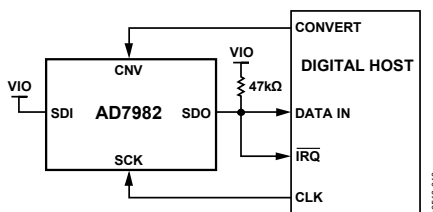
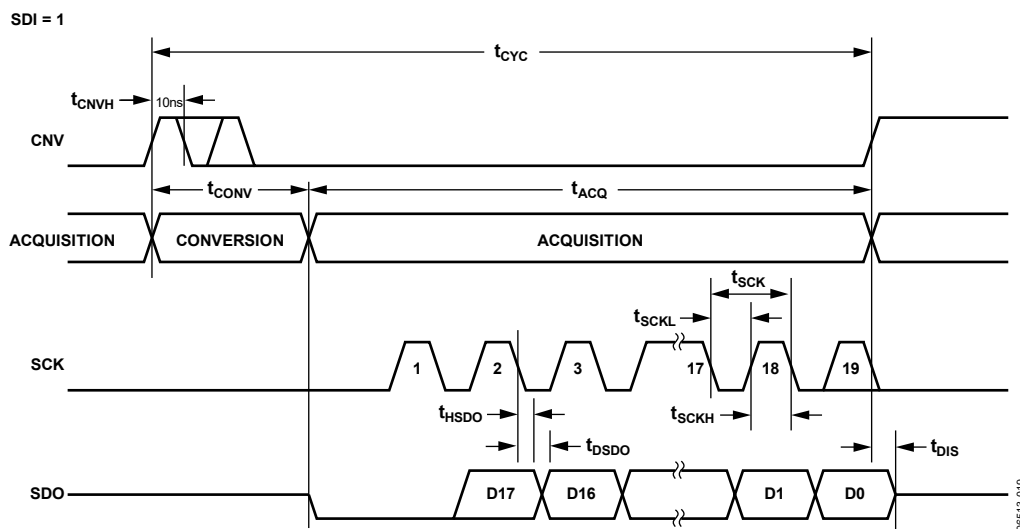
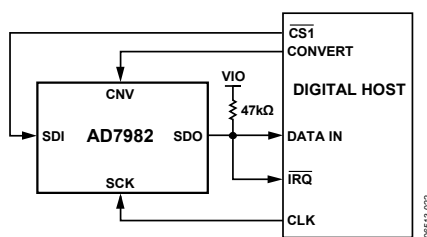
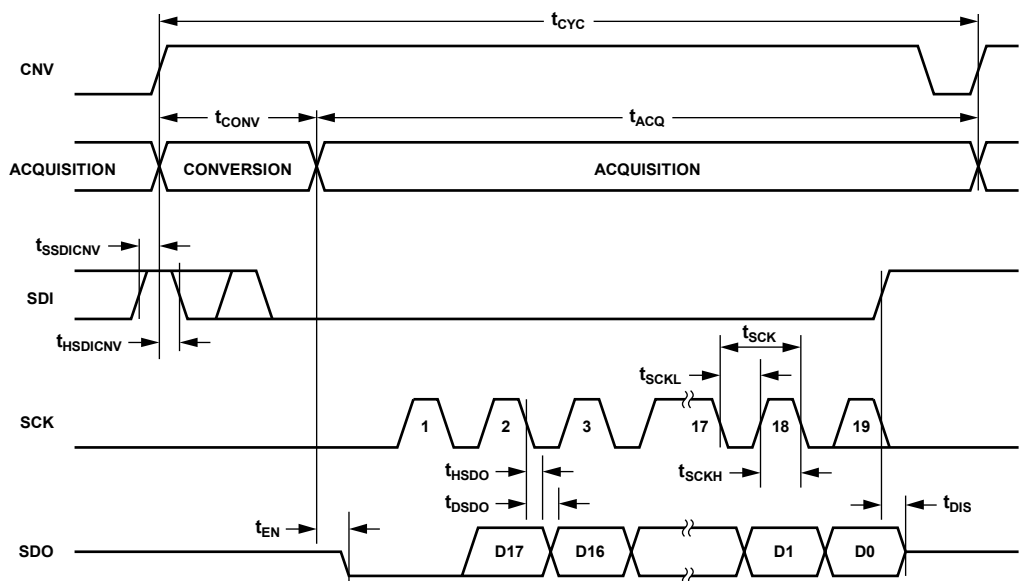

Figure 30.  $\overline{\text{CS}}$  Mode, 3-Wire with Busy Indicator Connection Diagram (SDI High)
Figure 31.  $\overline{\text{CS}}$  Mode, 3-Wire with Busy Indicator Serial Interface Timing (SDI High)
Figure 34.  $\overline{\text{CS}}$  Mode, 4-Wire with Busy Indicator Connection Diagram
Figure 35.  $\overline{\text{CS}}$  Mode, 4-Wire with Busy Indicator Serial Interface Timing
- In the  $\overline{\text{CS}}$  mode if CNV or SDI is low when the ADC conversion ends (see Figure 31 and Figure 35).
The connection diagram is shown in Figure 30, and the corresponding timing is given in Figure 31.
The connection diagram is shown in Figure 34, and the corresponding timing is given in Figure 35.